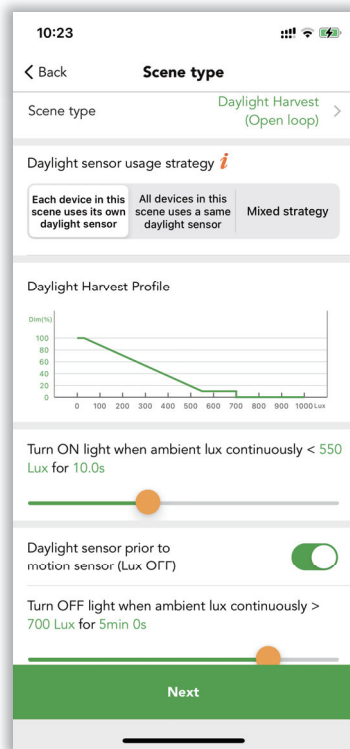

Figure 6.9 Open loop
- **Daylight sensor usage strategy** (see figure 6.9)